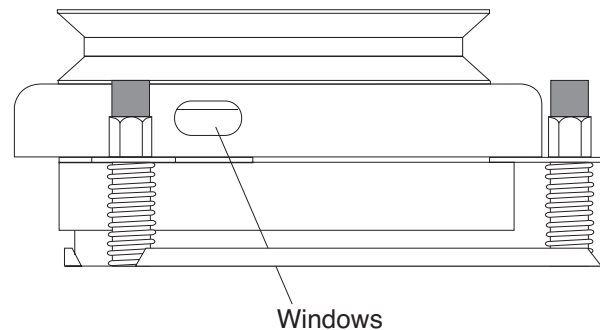

Figure 3
2. Locate the three “windows” or “notches” where the air gap is checked. (Figure 3)